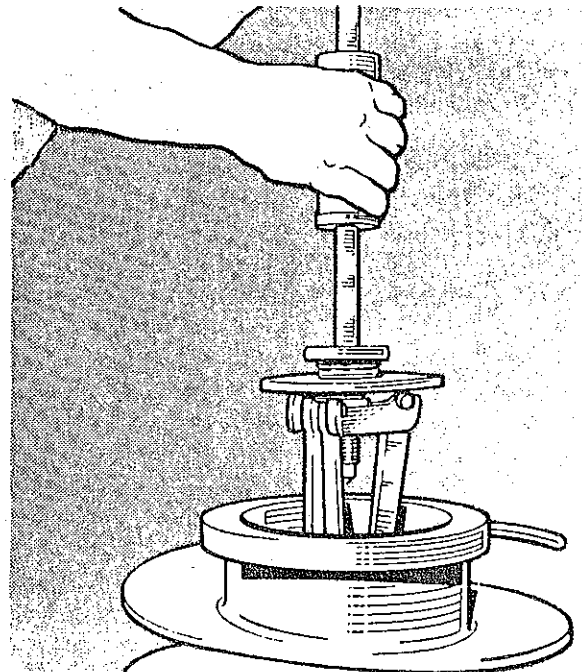

Figure 13. Bearing removal
- (ii) With the spline bushing still bolted to the conveyor, insert a bearing puller as in Figure 13. Remove the bearing set by using the slide hammer, that is, shock method.